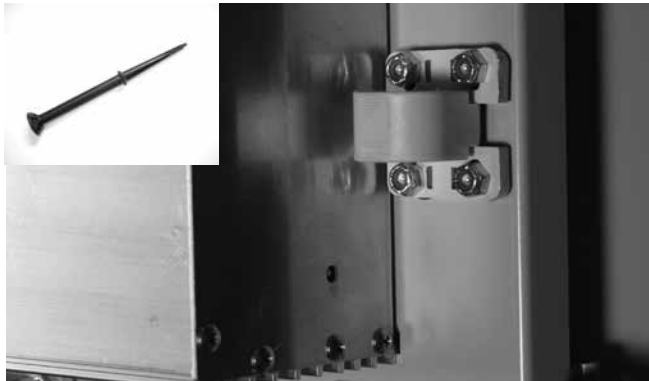

Figure 36. Location of push-button switch on the Form 4D control side-panel for power-up with battery power only. (Inset: DIN rail terminal block tool)
- Open the swing panel and locate the push-button switch recessed inside the control side panel (Figure 36).
- Momentarily (4-5 seconds) press the switch with a non-conductive tool such as the DIN rail terminal block tool included with the control (Figure 36 inset). The control will power up.